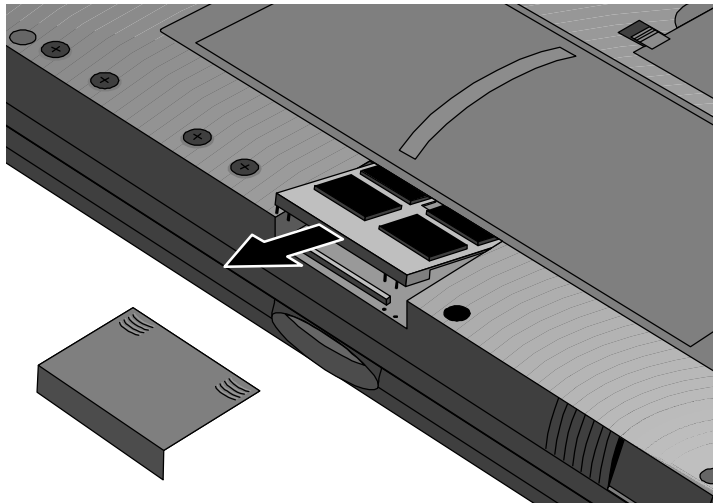

Figure 18 - Removing the Memory Module
3. Turn the unit upside down and slide the memory cover off by using the two finger grips. See Figure 18 on page 52.